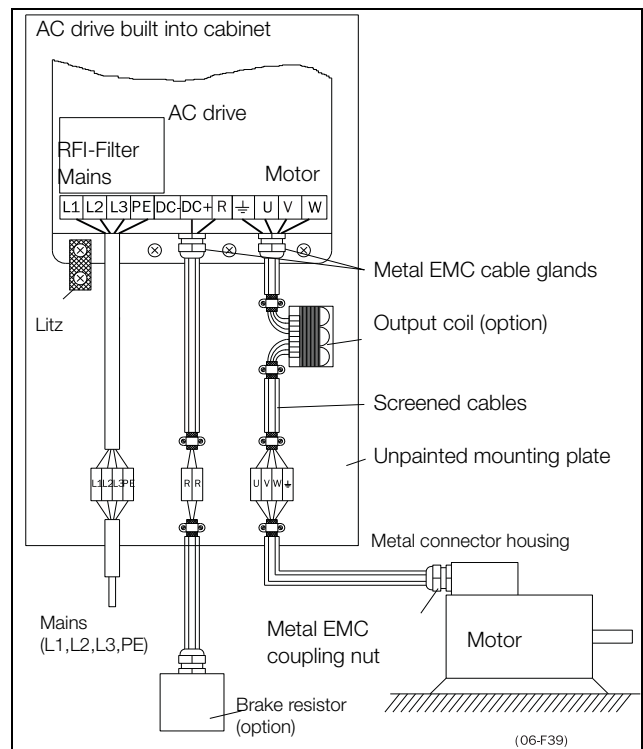

Fig. 48 AC drive in a cabinet on a mounting plate.
- The litz ground connection see Fig. 48, is only necessary if the mounting plate is painted. All the AC drives have an unpainted back side and are therefore suitable for mounting on an unpainted mounting plate.
- The litz ground connection, see Fig. 48, is only necessary if the mounting plate is painted. All the AC drives have an unpainted back side and are therefore suitable for mounting on an unpainted mounting plate.
If the motor cables are to be interrupted by maintenance switches, output coils, etc., it is necessary that the screening is continued by using metal housing, metal mounting plates, etc. as shown in the Fig. 48.
- If the AC drive is mounted in a standard cabinet, the internal wiring must comply with the EMC standard. Fig. 48 shows an example of a AC drive built into a cabinet.